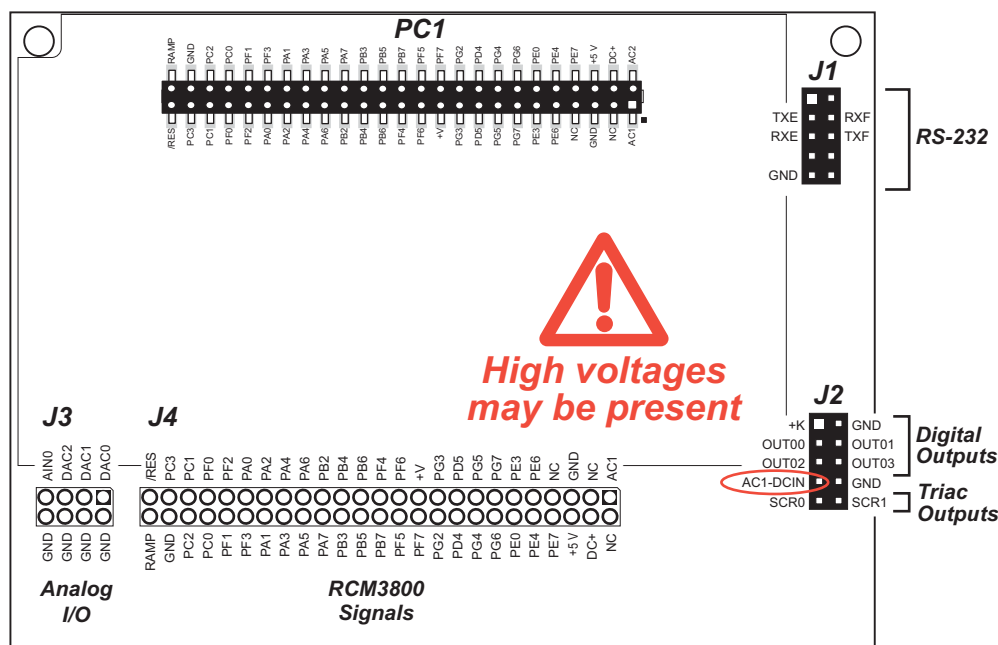

Figure B-3. PowerCore Prototyping Board Pinout
- **Module Extension Header**—The PowerCore module's pin set is duplicated at header J4. Developers can solder wires directly into the appropriate holes, or, for more flexible development, a 2 × 25 header strip with a 0.1" pitch can be soldered into place. See Figure B-3 for the header pinouts.
- **Digital I/O**—Four digital outputs and a +K connection are available on header J2. Two digital inputs are available at header location J4. See Figure B-3 for the header pinouts.
The Prototyping Board pinouts are shown in Figure B-3.